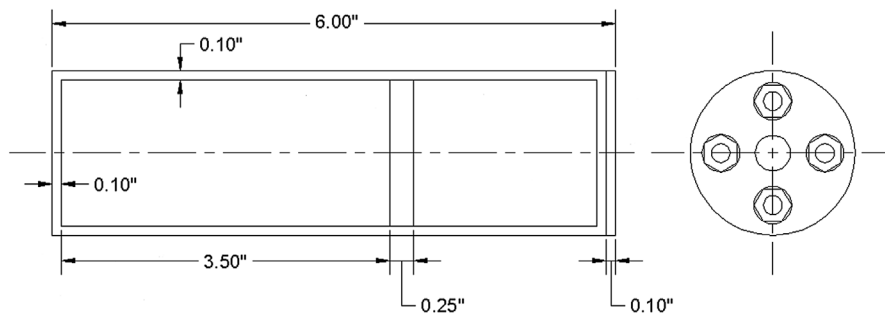

FIGURE 8.28 Body of part.
Step 8. Trim or fillet the main vertical guideline and continue offsetting, based on the given geometry, to “sketch out” the basic outline of the shape, as seen in Fig. 8.28. Do not yet add dimensions; they are for construction only.